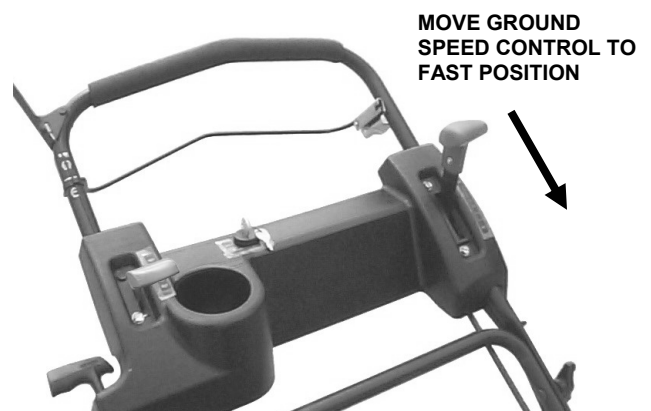

FIGURE 4.8
1. Move ground speed control into the 'fast' position. See Figure 4.8.